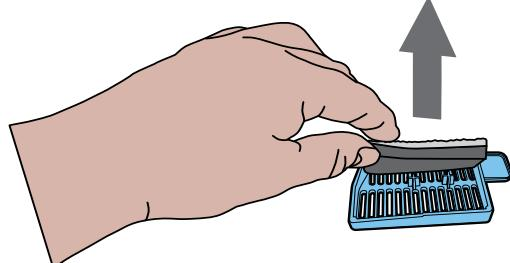

Fig.18
7. Replace the filter combination making sure that the course black filter is in contact with the plastic holder. (See Fig.18)